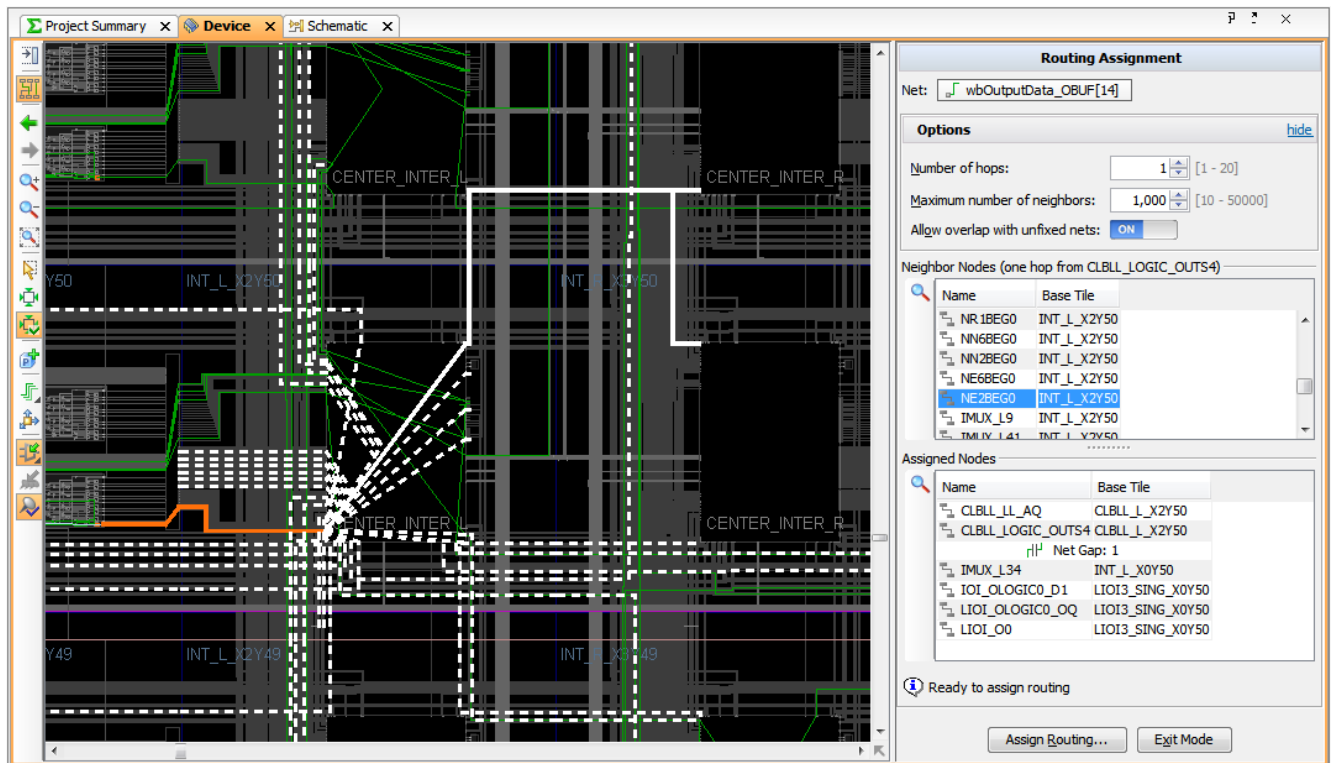

Figure 46: Routing the Gap from CLBL\_LOGIC\_OUTS4
8. Under the Assigned Nodes section, select the `CLBLL_LOGIC_OUTS4` node before the gap. The available neighbors are displayed as shown in Figure 46. To add delay to compensate for the clock skew, you must select a neighbor node that provides a slight detour over the more direct route previously chosen by the router.